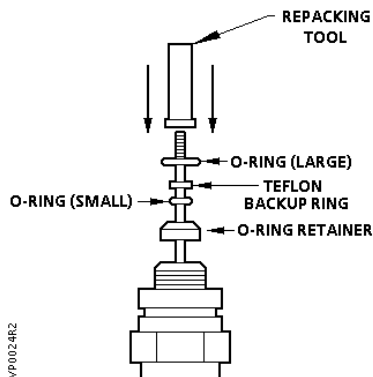

Figure 6. Repacking the O-rings.
- Slide the O-ring retainer into the bonnet with the tapered surface facing up. Slip the small O-ring and the Teflon® back up ring over the stem threads onto the smooth portion of the stem. With the repacking tool, push both down into the cavity of the O-ring retainer. Slide the large O-ring into the bonnet cavity. See Figure 6.